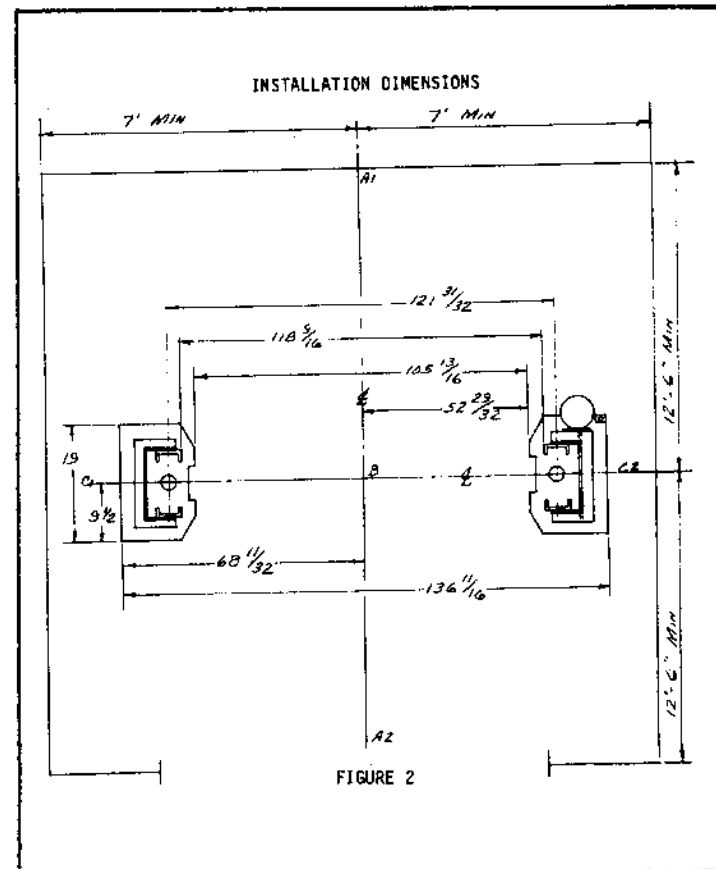

FIGURE 2
5. Locate the centerline (A1-A2) of the intended area. (See Fig. 2). Locate the transverse center line (C1-C2) through point "B".
6. Determine which side the power unit is to be located. Lay out width dimensions of lift. (See Fig.2). **NOTE:** Provide clearances for power unit. Post with power unit is the base post.
10. Carefully measure distance to opposite (offside) post (See Fig. 2). Place post in position and adjust until 105 13/16" (inches) is measured inside post base plates. Measure diagonally to square lift.